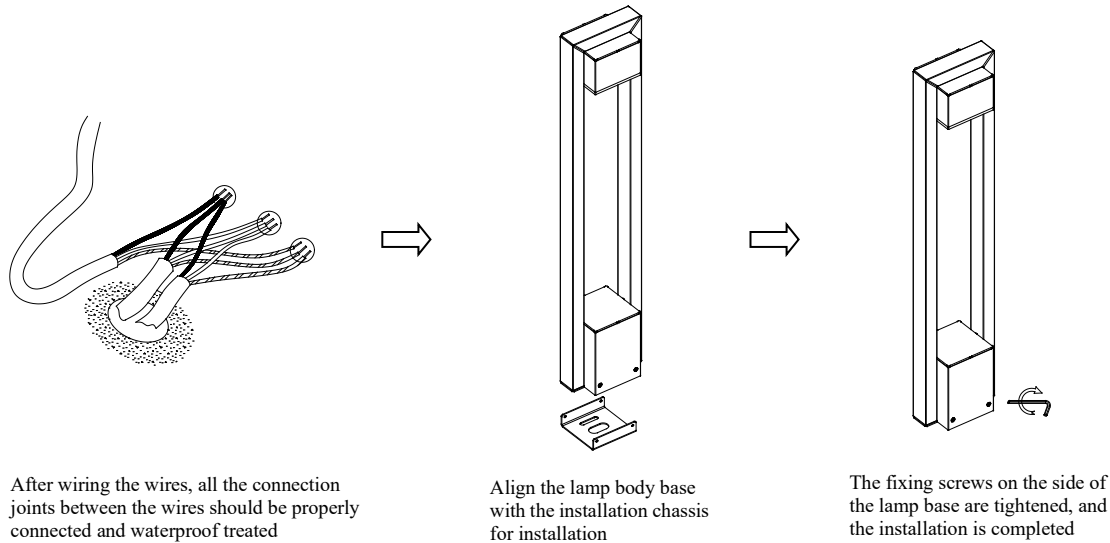

Figure 3
- After fixing the installation chassis, connect the lamp wires to the mains, and ensure waterproof protection for the wiring. Install the lamp body base on the installation chassis, as shown in Figure 3. .